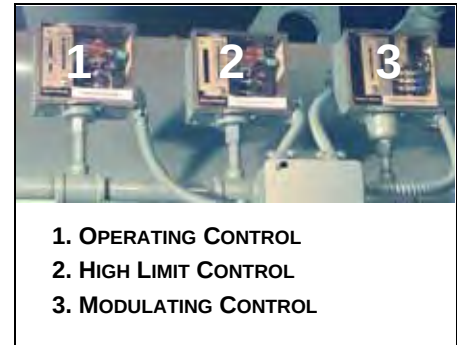

Figure 1-5 Steam Controls
1. Operating Limit Pressure Control (**Figure 1-5**): Breaks a circuit to stop burner operation on a rise of boiler pressure at a selected setting. It is adjusted to stop or start the burner at a preselected pressure setting.
2. High Limit Pressure Control (**Figure 1-5**): Breaks a circuit to stop burner operation on a rise of pressure above a selected setting. It is adjusted to stop the burner at a preselected pressure above the operating limit control setting. The high limit pressure control is normally equipped with a manual reset.
3. Modulating Pressure Control (**Figure 1-5**): Senses changing boiler pressures and transmits the information to the modulating motor to change the burner firing rate when the manual-automatic switch is set on “automatic.”